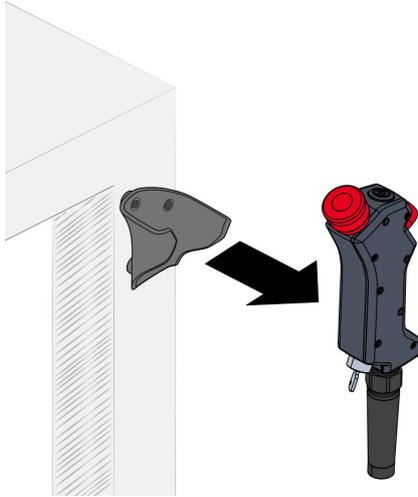

Fig. 101 Removing the handheld controller
13. Remove the handheld controller from the bracket on the table and place it near the robot controller Fig. 101.